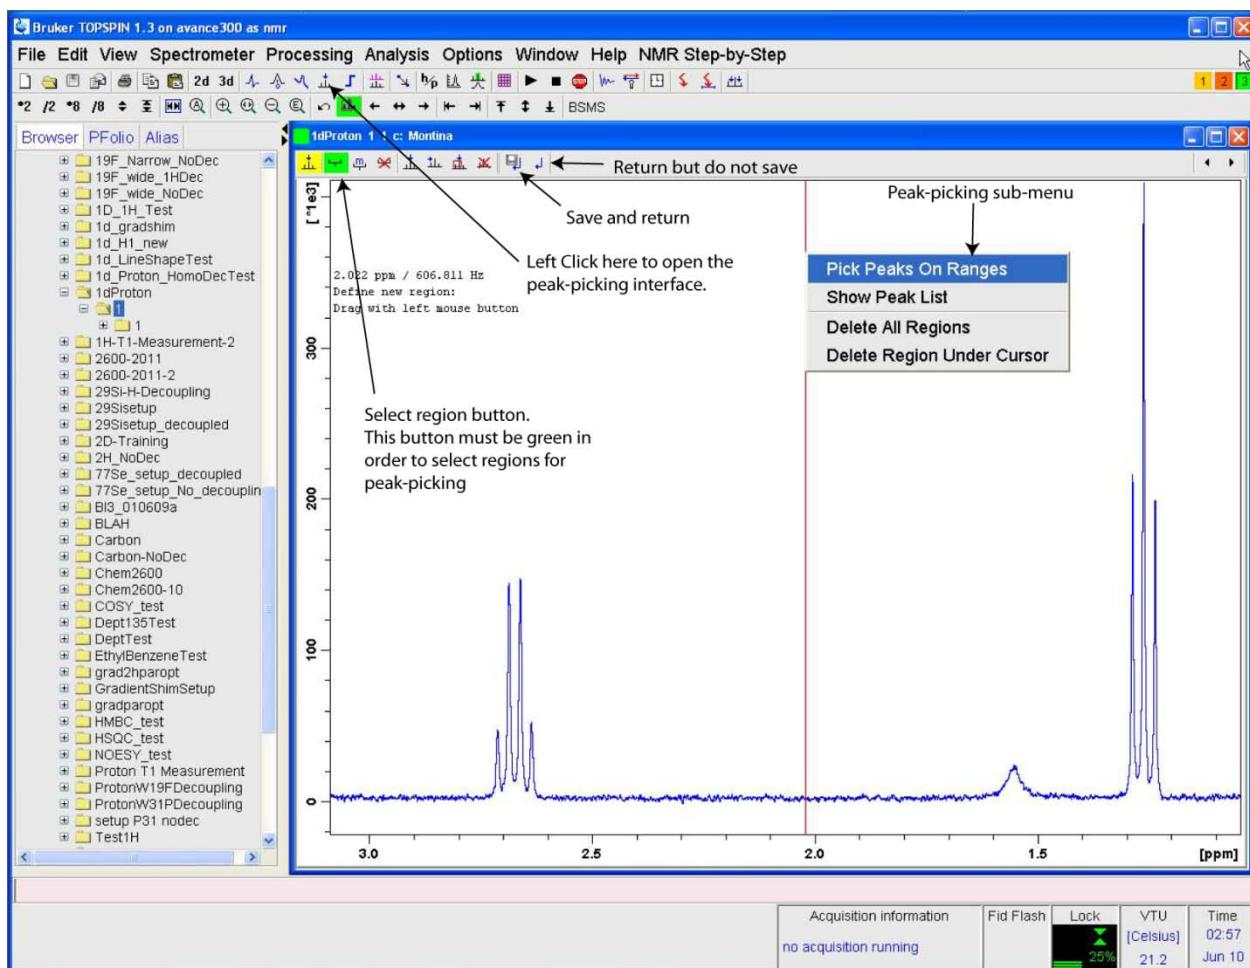

Figure 25 Topspin peak-picking interface.
(21) The spectrum is now ready to be peak-picked. The peak-picking interface can be brought up by left clicking on “Peak Pick” in the NMR step-by-step menu or on the icon indicated in Figure 25. The select region button (indicated below) must be highlighted green in order to select the peaks of interest. Left clicking and holding down the mouse button allows the user to drag a green box over the peaks of interest. This box must be created over the top of the peaks for them to be picked properly. A user can right click anywhere on the spectrum to open the peak-picking sub-menu. This menu will allow the user to delete all regions or delete the region under the location that they right clicked. When all peak-picking is complete the user should left click on the save and return icon.